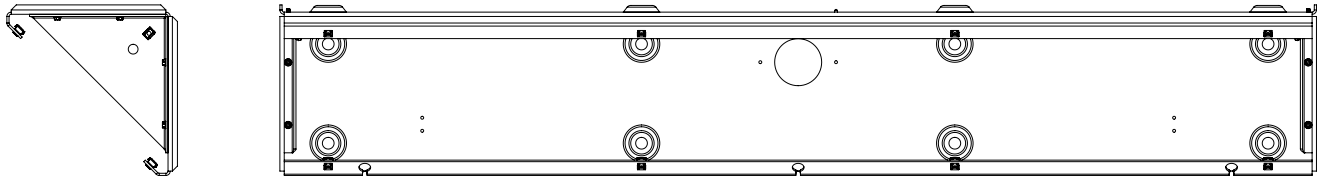

Figure 4.
Step 5. Carefully lift the fixture into place against the wall and ceiling. Two people are recommended for this due to the weight. Make sure the hinge slots are on the lower side of the fixture and the electrical access hole is near the ceiling/wall joint as shown below. (Figure 4)